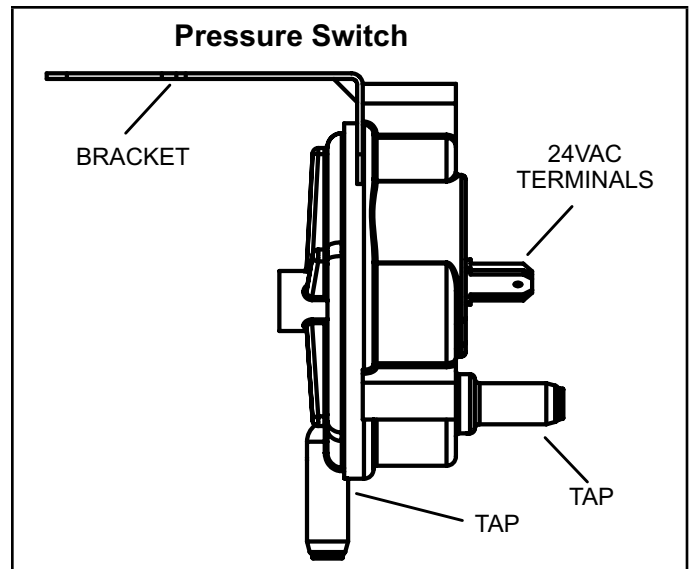

FIGURE 13
8. Combustion Air Pressure Switch (FIGURE 13)